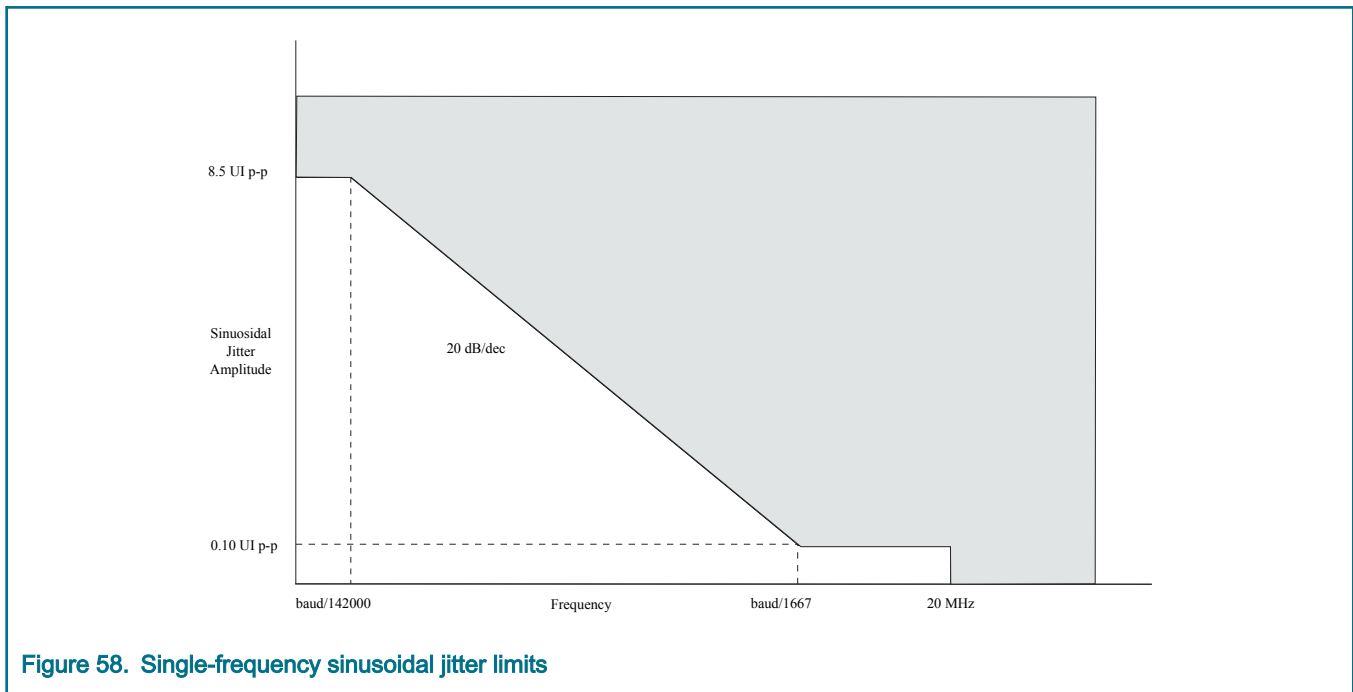

Figure 58. Single-frequency sinusoidal jitter limits
1. See Figure 58.
1. Measured at receiver. 2. Total jitter is composed of three components: deterministic jitter, random jitter, and single frequency sinusoidal jitter. The sinusoidal jitter may have any amplitude and frequency in the unshaded region of the Single-frequency sinusoidal jitter limits figure shown below. The sinusoidal jitter component is included to ensure margin for low frequency jitter, wander, noise, crosstalk and other variable system effects. 3. See Figure 58 .